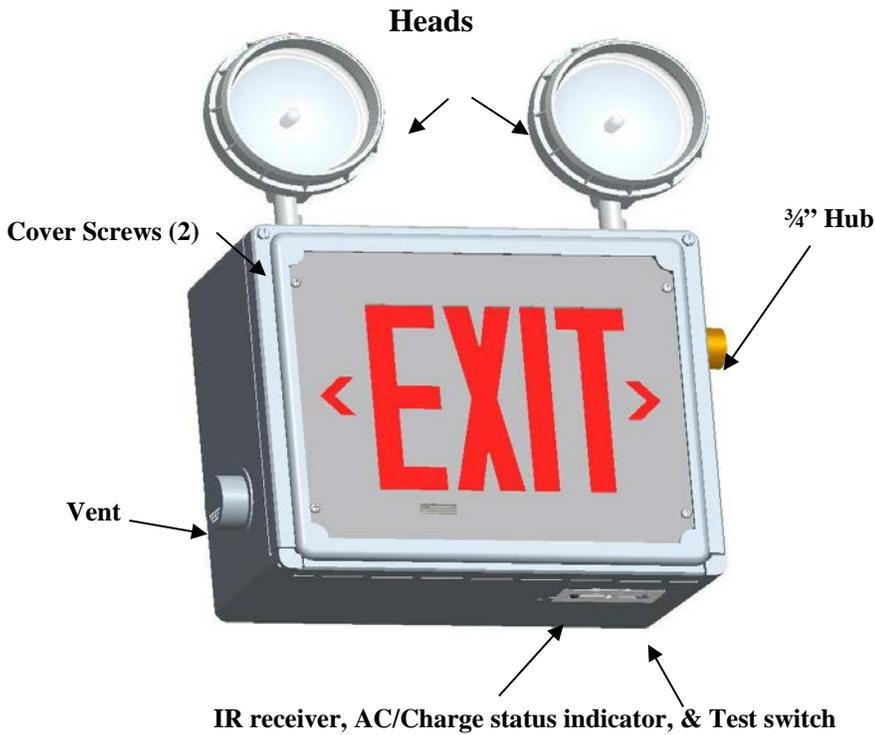

Figure 1
2. Remove cover screws (2) and open cover. (See Figures 1 and 2).
3. Dismount exit lens by removing lens screws (4). (See Figures 1 and 2).